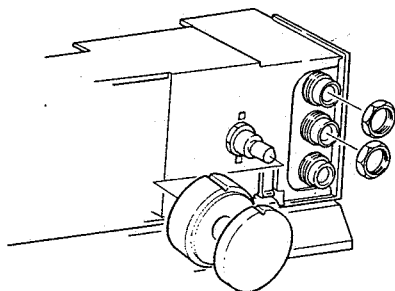

Fig. 7
- 4) Remove the REC knob and then remove 2 nuts. (See figure 7)